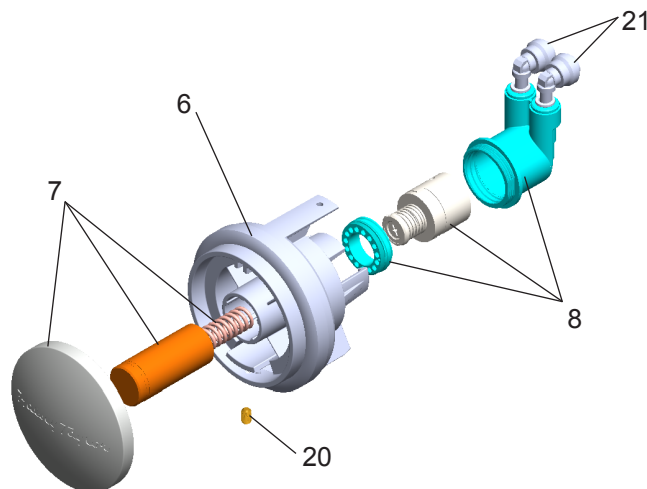

Figure 9 - Push Button Assembly
14. **Check** stream height from bubbler. Stream height is factory set for 35 PSI supply. If supply pressure varies greatly from this, remove push button (Item 7 - Fig. 9) and adjust the screw on the regulator (Item 8 - Fig. 9). To remove push button, remove setscrew from bottom of sleeve (Item 6). Insert a small punch in screw hole and push up while grasping the push button and pull forward removing the push button. Clockwise adjustment will raise stream height and counterclockwise movement will lower stream height. For best adjustment stream should hit basin approximately 6-1/2" from the bubbler. Reassemble the push button by pushing in on button until the push button catches in the sleeve. Reinstall the setscrew (Item 20) in the sleeve (Item 6).